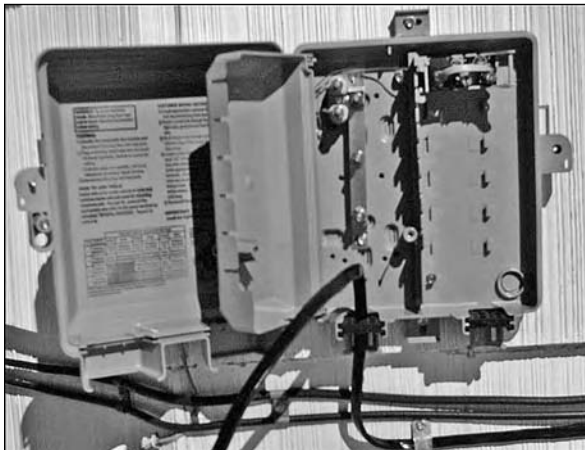

Figure 6-1:
If you have overhead service, the phone company will probably install a demarcation box outside your home. Figure 6-1 shows a typical demarc box connected to a house. Notice the grounding tab mounted vertically in the center-left portion of the box. On the upper-right side of the box, a one-line interface jack is already mounted in the box. The NID also requires a grounding connection running as straight as possible to the electrical service entrance grounding point with at least a 14-gauge, insulated grounding copper (stranded or solid) wire listed by *Underwriters Laboratory (UL)* as suitable for grounding. The ground wire should be guarded from potential damage using conduit. If using metal conduit, ground both ends of the metal conduit. In this case, using PVC schedule 40 conduit is probably better.
If you look closely at the picture in Figures 6-1 and 6-2, you notice that the interface between the Telco and the customer sides is a standard RJ-11 jack. (*RJ* is short for *Registered Jack*.) If you're having trouble with your phone and want to know whether the problem is in the phone company line or with the house wiring, disconnect one of the RJ-11 plugs in the NID box and insert a standard phone cord attached to a phone. If you hear a dial tone and can make calls from the NID box, then the problem is with your wiring or phone sets inside the house.